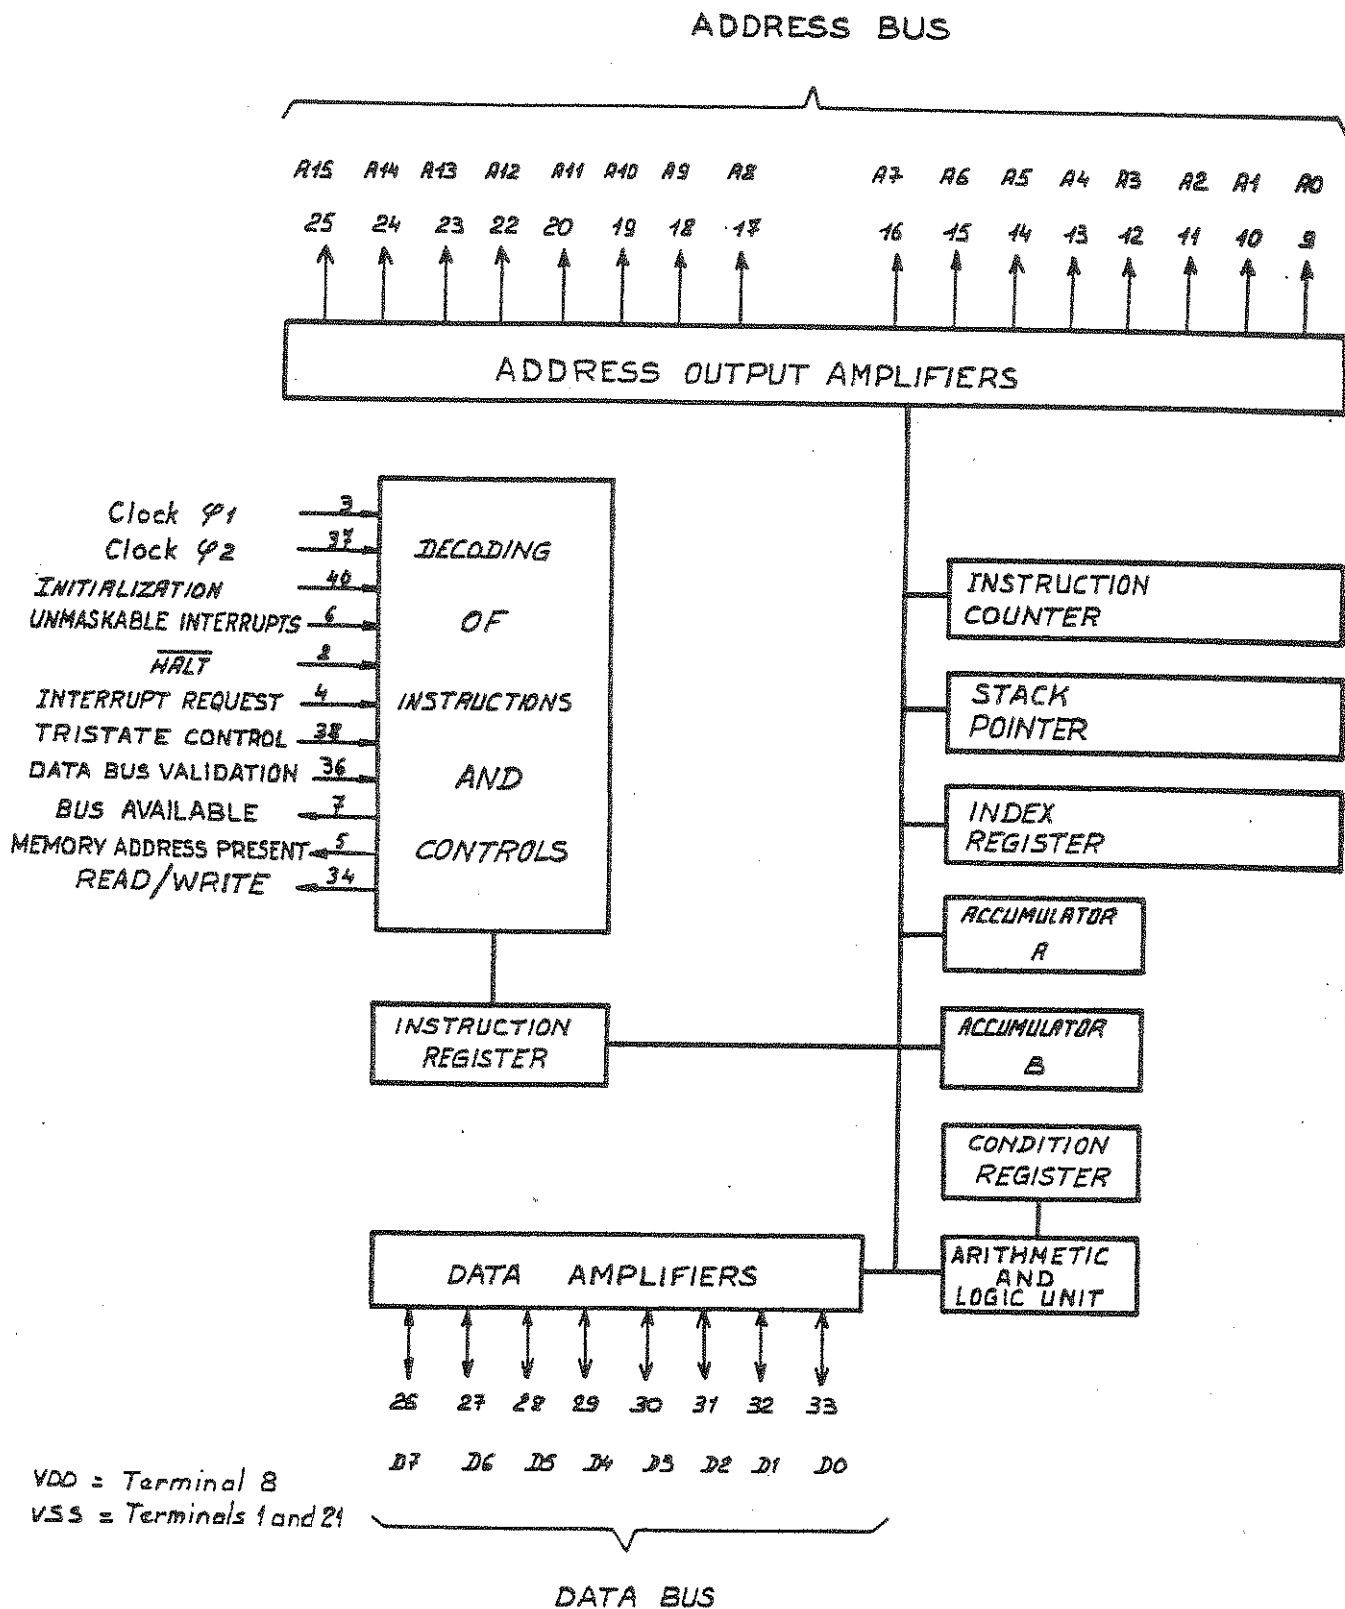

Figure 1 Général structure
1.2.1 General structure (see figures 1 and 2)